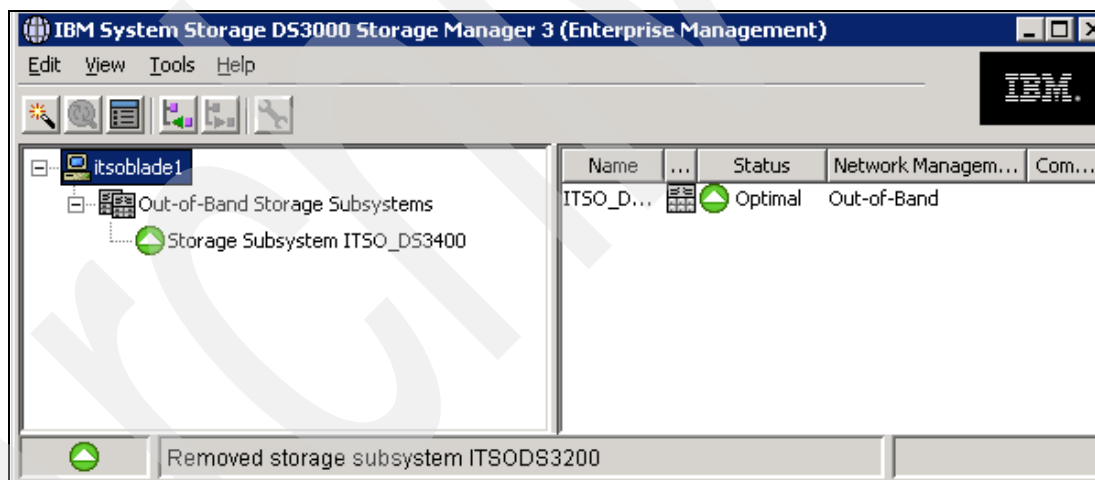

Figure 5-24 DS3400 in Enterprise Management window
4. The Enterprise Management window now contains our DS3400, accessible through the out-of-band management connection (see Figure 5-24).